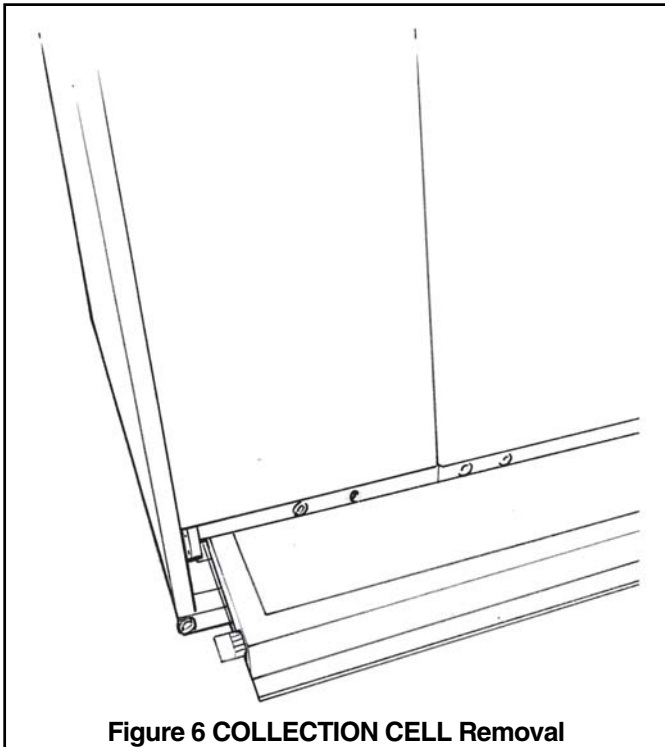

Figure 6 COLLECTION CELL Removal
- Before installing unit, remove thumbscrews to the filter panel. Carefully remove the **COLLECTION CELL** by grasping the leading edge of the frame. See Figure 6. Set aside in a safe place until the unit is set in place and ready to start up.
- a. Before installing unit, remove thumbscrews to the filter panel. Carefully remove the **COLLECTION CELL** by grasping the leading edge of the frame. See Figure 6. Set aside in a safe place until the unit is set in place and ready to start up.
- a. Before installing unit, remove thumbscrews to the filter panel. Carefully remove the COLLECTION CELL by grasping the leading edge of the frame. See Figure 6. Set aside in a safe place until the unit is set in place and ready to start up.